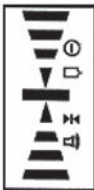
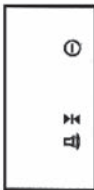

Fig. 6
Fig. 7
- 1) Press the power key to turn the unit on. The LCD display will illuminate all the indicator segments for 0.5 second (Fig. 6). When the indicator segments are no longer illuminated, the detector is ready for use. Note: The LCD display will still have the power, detection and sound indicators illuminated (Fig. 7).